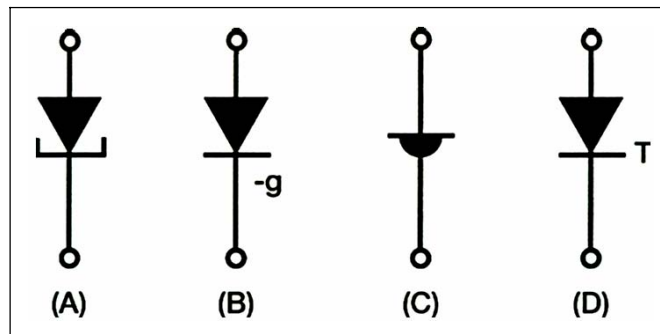

Figure 3-10. Tunnel Diode Schematic Symbols
3-25. Several schematic symbols are used to indicate tunnel diodes. These symbols are shown in Figure 3-10, views (A) through (D).